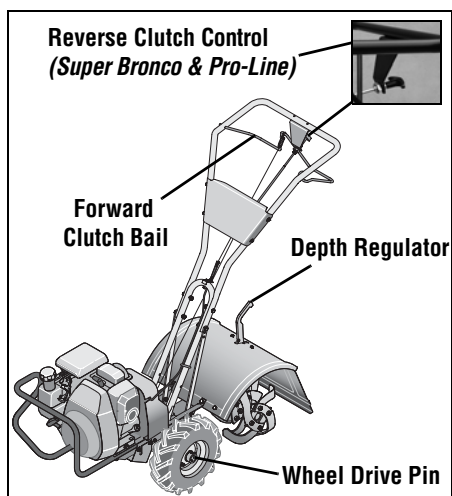

Fig. 4-1
- (a) Pull Forward Clutch Bail (Fig. 4-1) up against handlebar. Release bail to stop forward motion of wheels and tines.